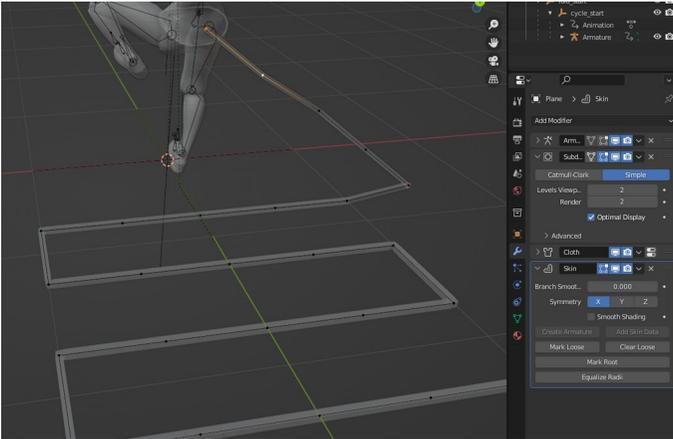

Figure 12-9 The Rope
1. Add a plane to the scene and rename it rope, then scale and move it so it's where the floor would be behind Lola's back, you can judge the size from Figure 12-9. In Edit mode subdivide the plane four times then, with edge selection enabled, delete rows of edges so you are left with a serpentine shape. Move four or five vertices so the end vertex is just behind Lola's waist. Finally create a vertex group containing just the end vertex called "mixamorig:Hips", this has to match the bone name in the armature but you can also use it as the pin group in the cloth.